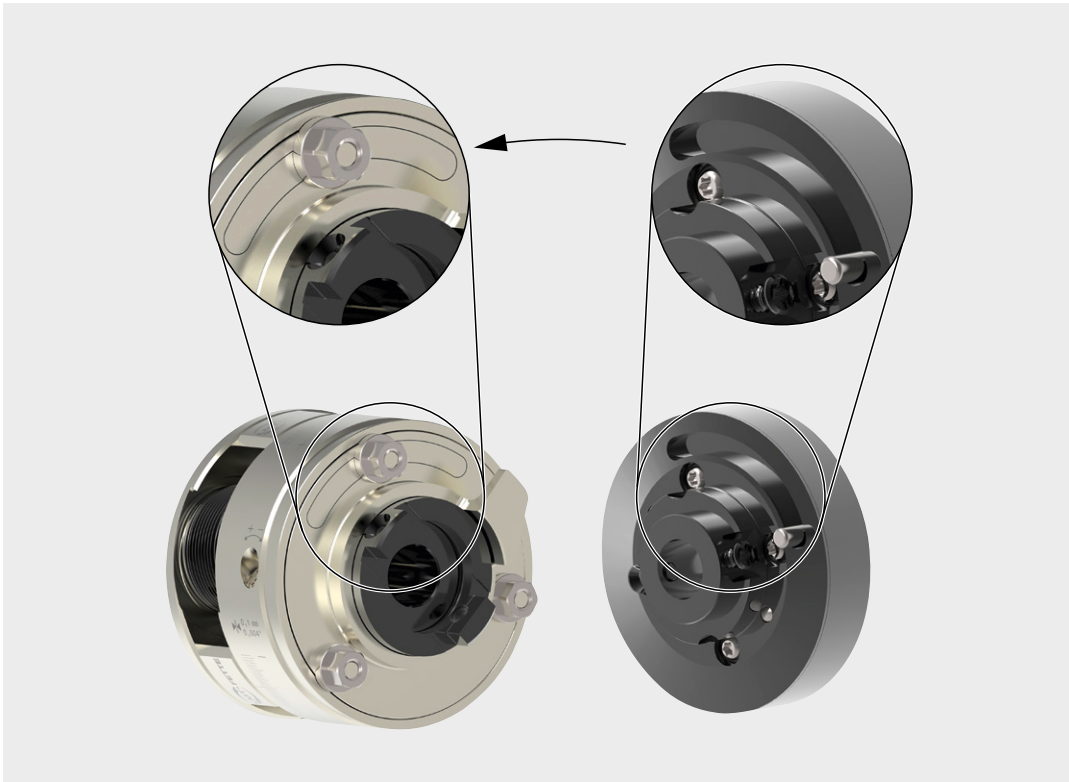

Fig. 27: Installation of the *closing unit*
10. Place the *closing unit* on the section point of the *rolling head*. Pay attention to the marks on the chip guard. The locking cylinder pin notch in the *coolant-operated closing device* must align with the marking on the chip guard (see Fig. 27).